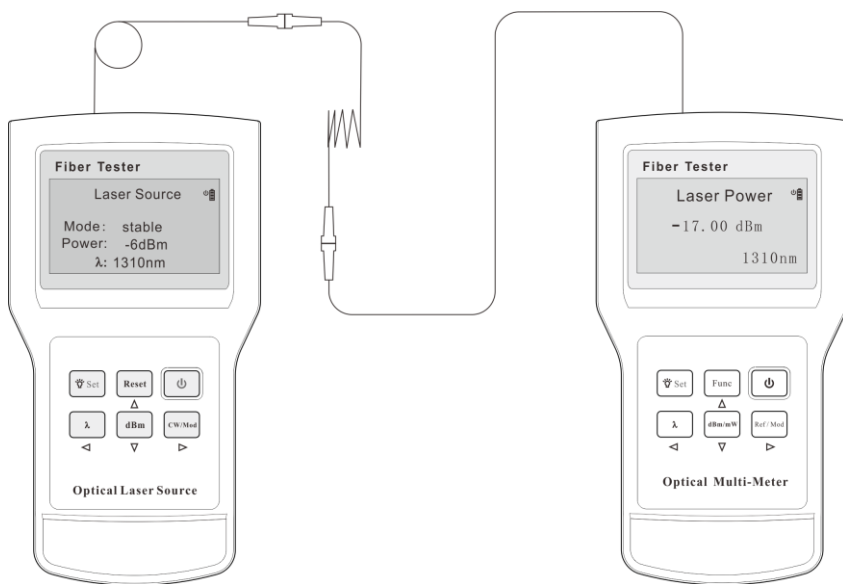

Figure 2.
- 1) Without removing the launch jumper from the optical light source ,connect the optical light source and the optical power meter to the fiber under test. (Ref. Figure 2.)